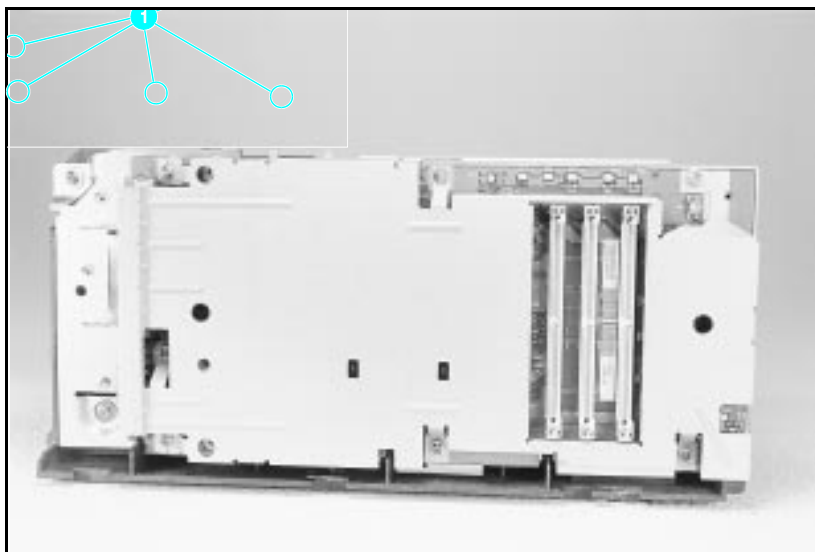
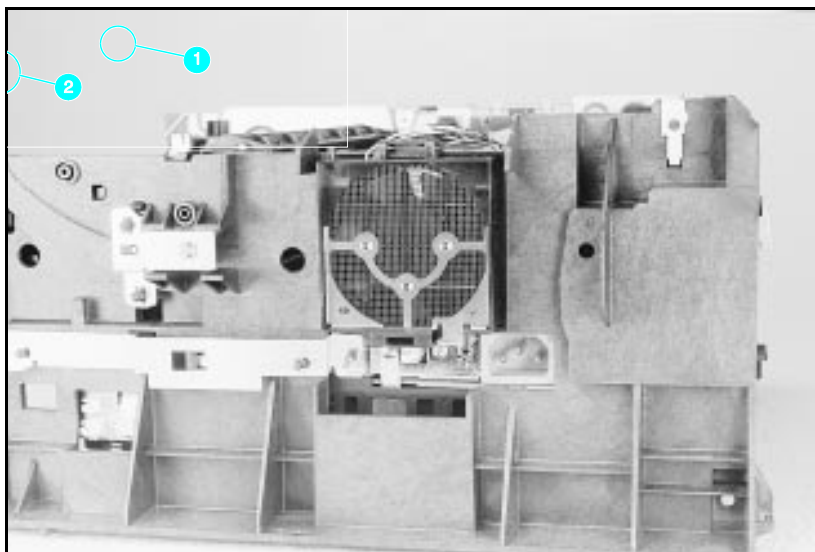

Figure 25 Removing the formatter screws.
Figure 28 **Grounding Spring screw location.**
2. Remove the (7) screws shown in Figure 25.
2. On the right side, remove the machine screw and washer (Figure 28) holding the grounding spring in place. (Callout 1 in Figure 25).
3. Disconnect the two cables to the tray 1 assembly (callout 2 in Figure 25).